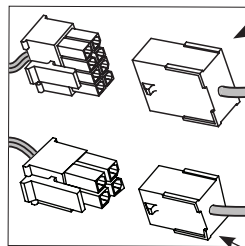

Fig. 6D
3. Connect ElectroLynx 4- and 8-pin connectors from the door harness to (black) 4- and 8-pin connectors of the SE LP10 harness (Fig. 6D).
7. Connect ElectroLynx 4- and 8-pin connectors from the door harness to (black) 4- and 8-pin connectors of the SE LP10 harness (Fig. 6D in previous step).